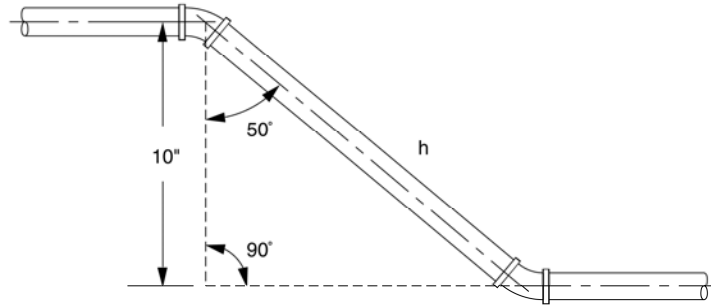

Figure 3-6. Calculate the hypotenuse of the right triangle using trigonometry concepts.
- 11. Calculate the hypotenuse (travel) of the triangle shown in Figure 3-6 using trigonometry concepts.